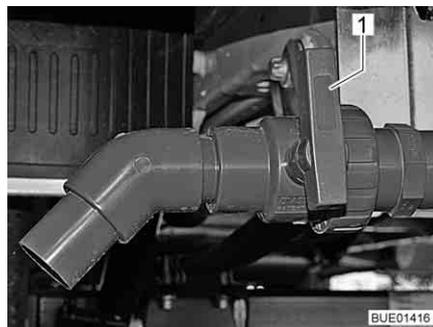

Fig. 244 Drain cock
- Turn the handle (Fig. 244,1) of the drain cock in flow direction.